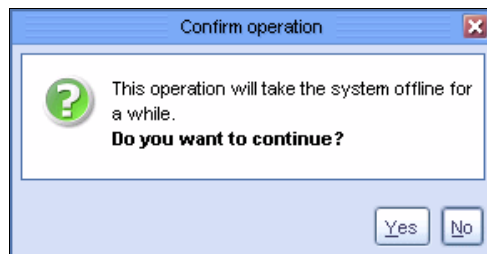

Figure 5-65 ProtecTIER data loss Confirm operation window
5. The Confirm Operation window opens (Figure 5-65). Click **Yes**.